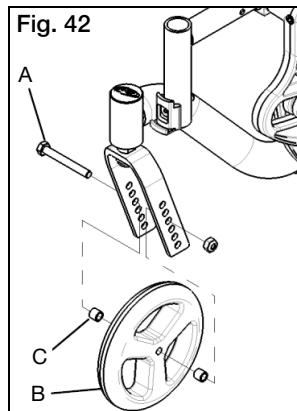

Fig. 42
- Remove hex bolt (Fig. 42:A) and nut using 13mm wrenches.
- Remove caster wheel (Fig. 42:B) and spacers (Fig. 42:C).